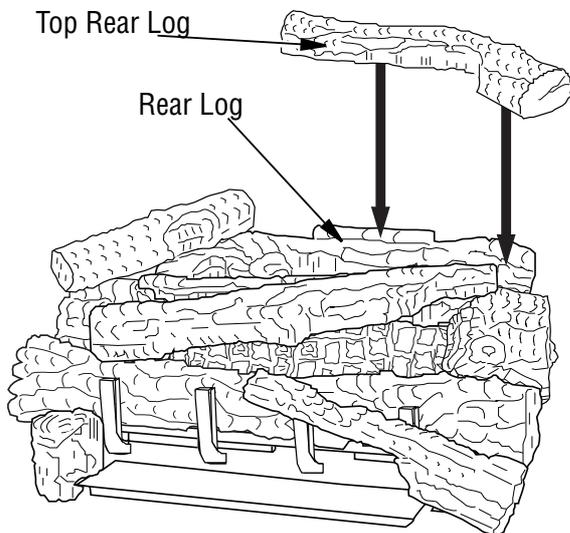

Figure 34 - Installing Top Rear Log
11. Place the top rear log onto the rear log as shown. The rear log has a projection that will fit into the recess area on the bottom of the top rear log (see *Figure 34*).